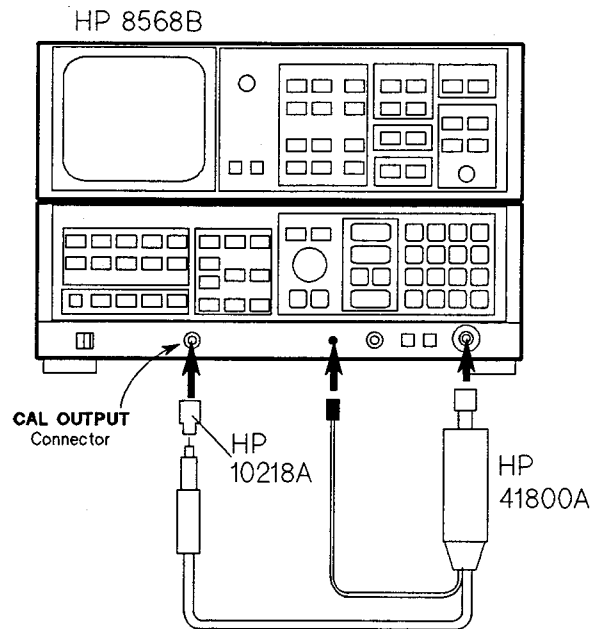

Figure 3-5. Operating Check Setup Using Spectrum Analyzer
Figure 3-5 shows the operating check setup using a spectrum analyzer.
1. Connect the equipment as shown in Figure 3-5.